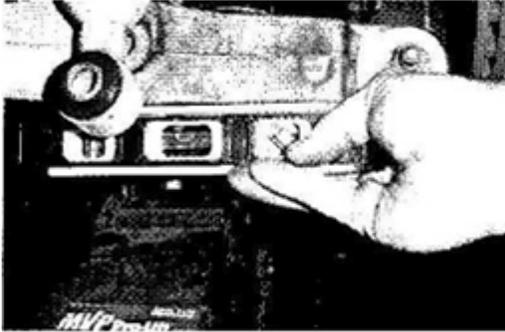

Figure 1
8. The outer tie-rods must be replaced with the included billet aluminum adjusting collar and rod end. Before removing the outer tie-rod it is important to measure the distance the mounted outer tie-rod is from a fixed location, usually the exhaust hanger. Jack the lower control arm up until it is level along the lower rear edge. (Note the exact location you have placed your level for duplicating the procedure for the other side.) **Figure 1**